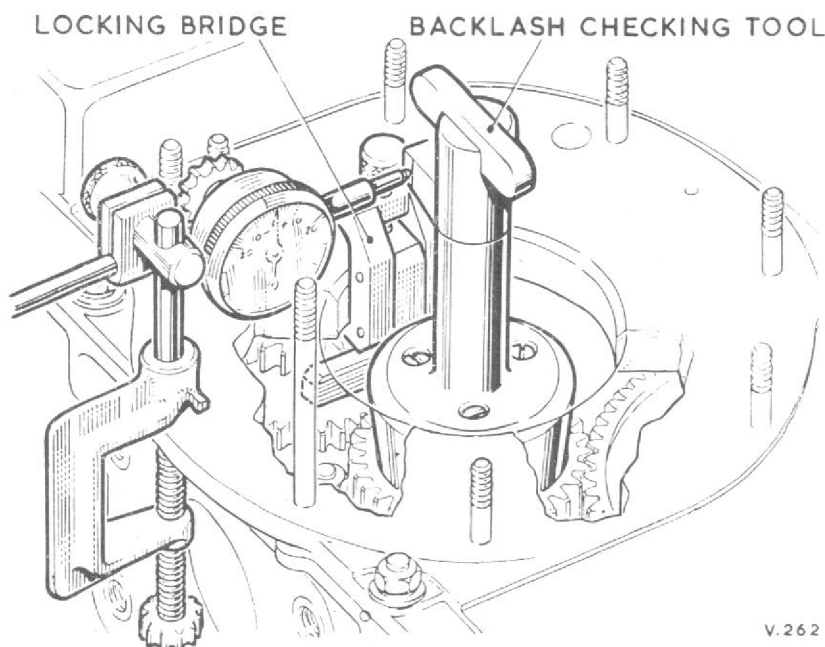

Fig. 6. Top wheelcase backlash checks
- (1) Remove the blanks from the top wheelcase.
- (2) Assemble the top wheelcase to the air-intake, securing it to alternate studs with slave washers and nuts.
- (3) Using locking bridge T74894, lock the spare drive idler gear through the starter aperture in the wheelcase.
- (4) Position the backlash checking tool T74896 in the bore of the upper driving gear.
- (5) Clamp a dial test indicator on the starter adapter flange and locate the stylus on the scribed line of the backlash tool.
- (6) Check that the backlash from the driving gear to the spare drive idler gear is within the limits (fig. 6).